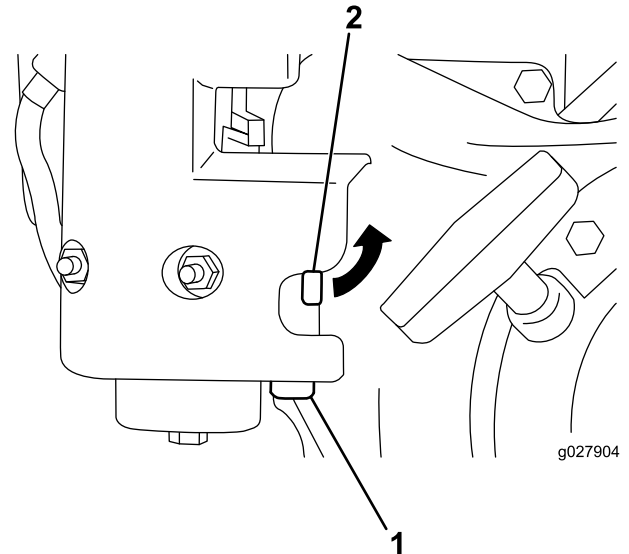

Figure 29
1. Close the fuel shut-off valve and unscrew the bowl from the filter body (Figure 29).